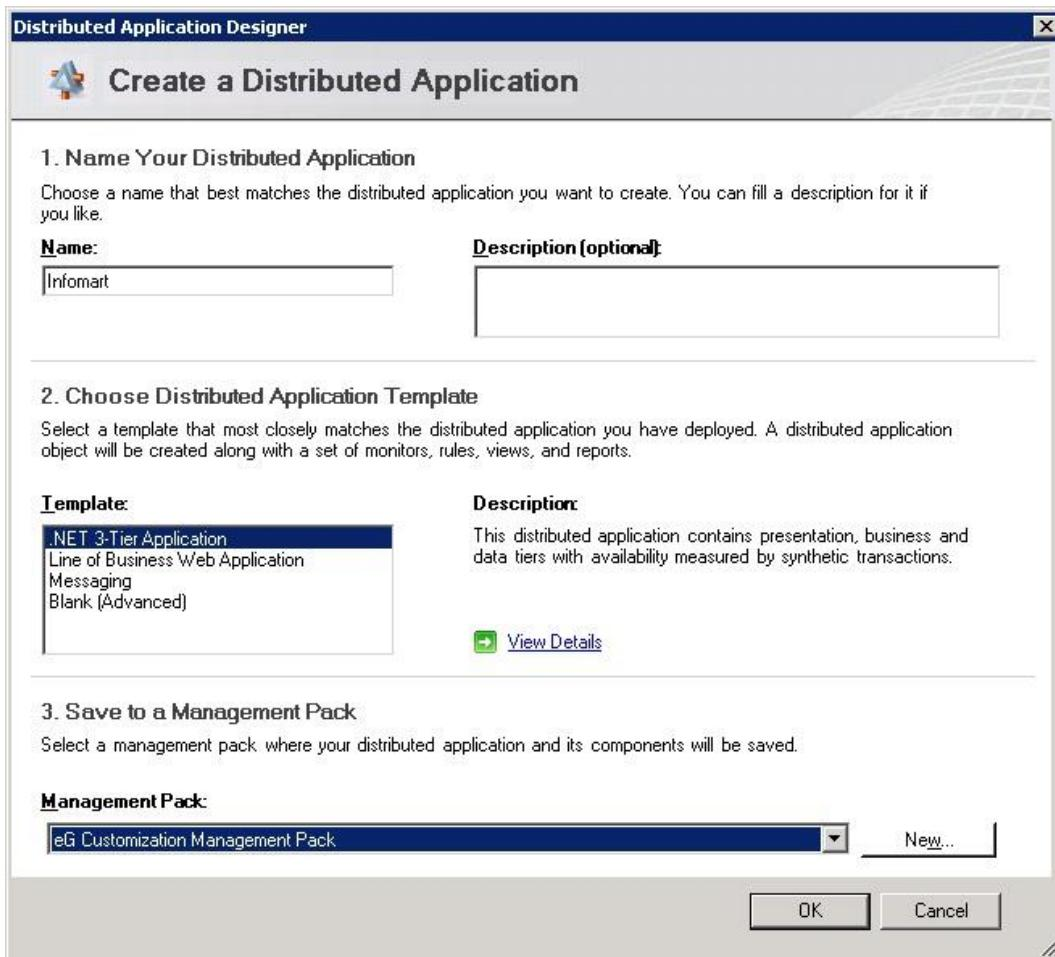
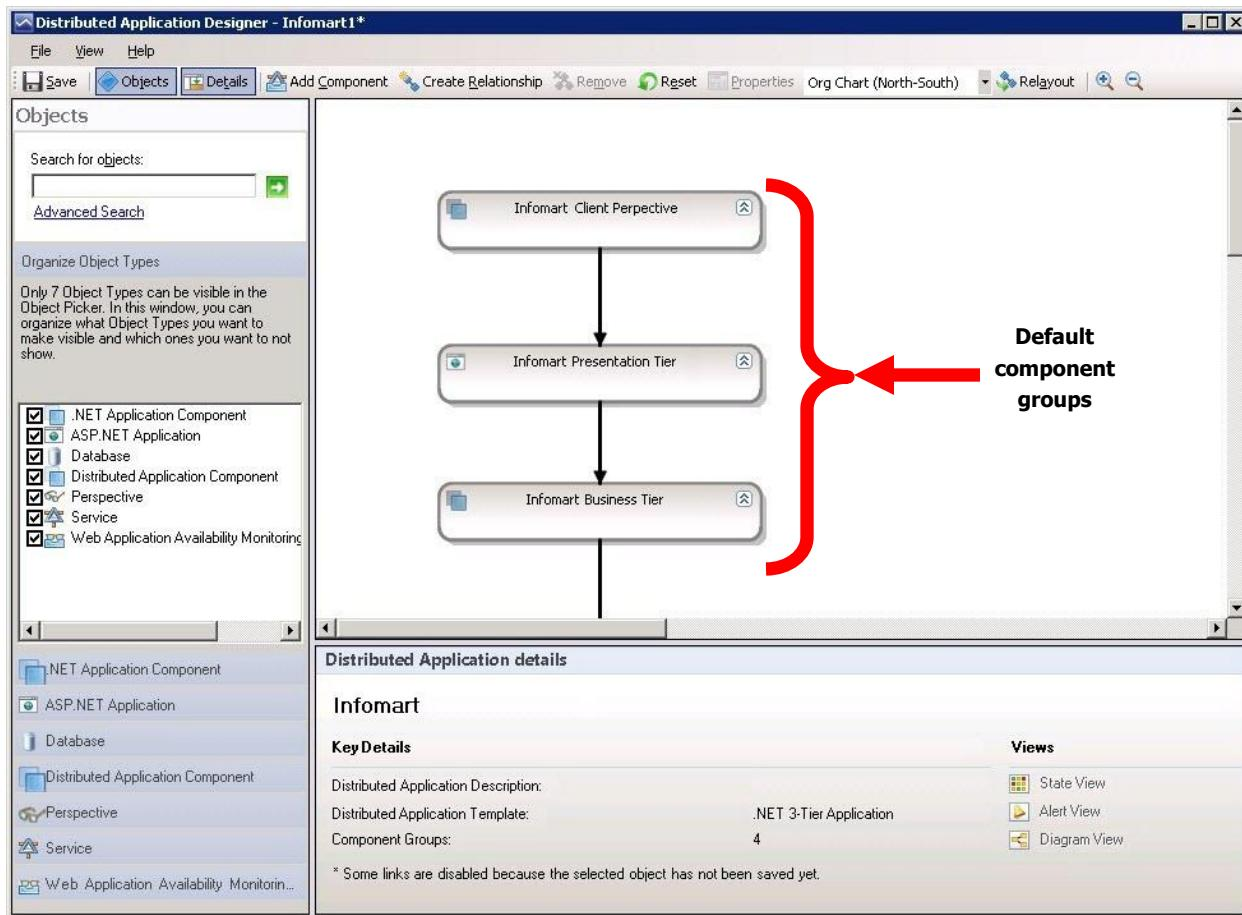

Figure 3.25: Creating a Distributed Application
Figure 3.26: The Distributed Application Designer
3. Figure 3.25 then appears.
4. In the **Name Your Distributed Application** section of Figure 3.25, provide a unique **Name** to your distributed application – for easy identification, it's best to name the distributed application after the business service it corresponds to. In the case of our example therefore, set *Infomart* as the **Name** of the distributed application. Next, select the **.NET 3-Tier Application** option from the **Template** list in the **Choose Distributed Application Template** section, and pick the **eG Customization Management Pack** option from the **Management Pack** dropdown in the **Save to a Management Pack** section. Finally, click the **OK** button in Figure 3.25. This will invoke the **Distributed Application Designer** window (see Figure 3.26).